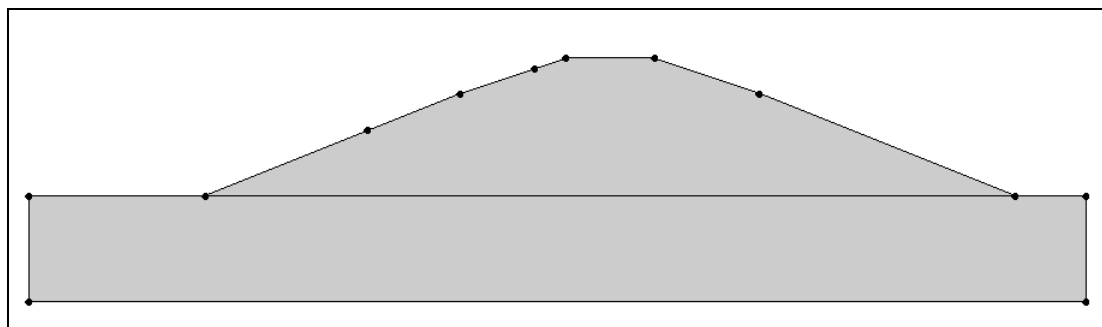

Figure 2. Arcs Connecting Points.
3. Using Figure 2 below as a guide, click on the existing points to create arcs between the points around the perimeter of the model.